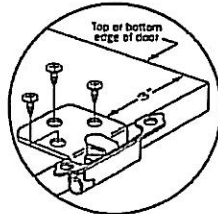

Figure 8. Installing the SPA100 hinge.
- Measure 3 inches from the top and bottom edge of the door. Mark the measurement (see Figure 8).
- Align the edge of the hinge to the mark as indicated in Figure 8. Secure with three 1/2" mounting screws.